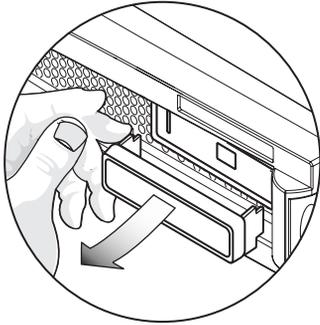

FIGURE 1-5 Pulling the Right Retaining Lug Away From the Bezel
2. Pull the right retaining lug away from the bezel so that the nameplate comes free of the bezel (see FIGURE 1-5).